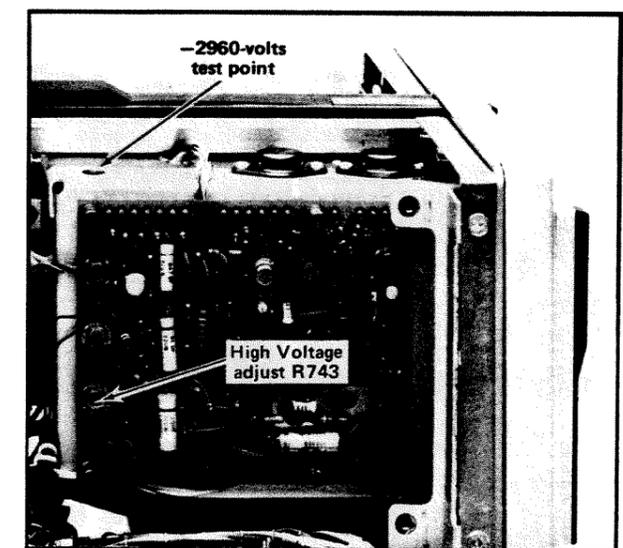

Fig. 5-6. Location of -2960 Volts test point and High Voltage adjust R743.
b. Connect the DC voltmeter (VOM) between the high voltage test point (see Fig. 5-6) and ground.³
e. ADJUST—High Voltage. R743 (see Fig. 5-6) for a meter reading of -2960 volts.